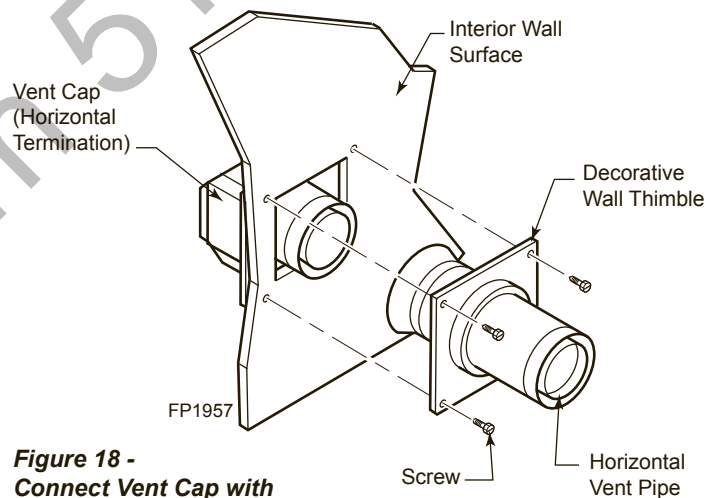

Figure 18 -
5. Slide the wall thimble over the vent pipe before connecting the horizontal run to the vent cap. *Figure 18*
7. Slide the wall thimble against the interior wall surface and attach with screws. *Figure 18*